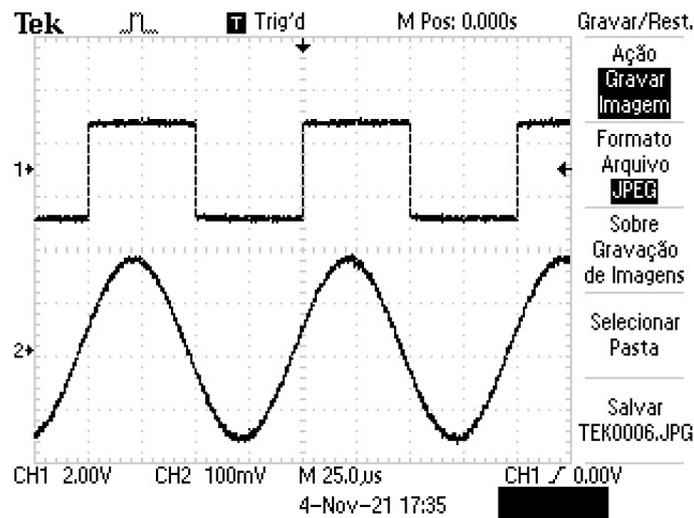

Figure 5: Oscilloscope view of the function generator square wave and analog output of the STM32F746G.
**Question 6:** now, increase the frequency of the square wave, in steps of 1 kHz, until the STM32F746G output wave looks like a perfect sinusoid, as it is illustrated in Figure 5. What is the frequency after which the output wave looks like a sinusoid and how do you explain it (i.e. how do you understand that it is that value and not some other value) ?